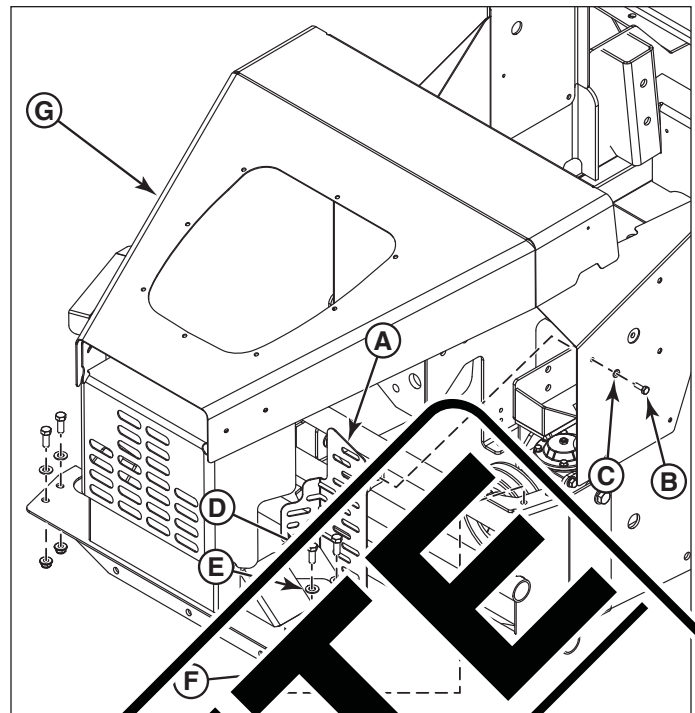

Figure 3. Remove the Rear Shielding and Hood Assembly
5. If the unit was shipped outside of the United States it is equipped with an additional flywheel guard (**A, Figure 3**). Remove the 1/4-20 X 3/4" bolt (**B**) and washer (**C**) from the flywheel guard.
6. Remove the four (4) 3/8-16 X 1" bolts (**D**), and 3/8 SAE washers (**E**) and 3/8-16 hex nylock flange nuts (**F**) that secure the rear shielding and hood assembly (**G**) and flywheel guard, (if equipped), from the rear bumper of the machine. Discard the nuts.